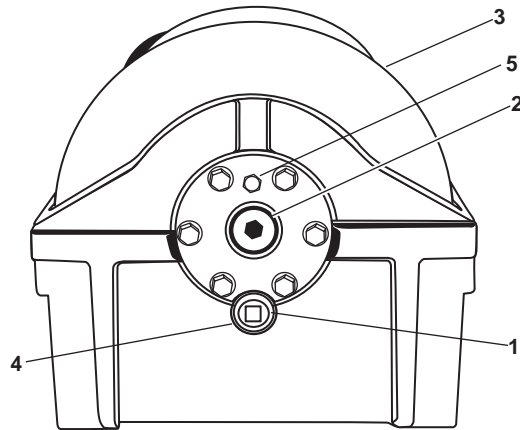

Figure 1. Servicing the Winch
1. Clean the area around the winch drain plug (figure 1, item 1) and winch oil level plug (figure 1, item 2) with dry cleaning solvent and clean wiping rags.
- Align the winch drain plug (figure 1, item 1) in the drum (figure 1, item 3) with the hole (figure 1, item 4) in the support side of the base.
5. Insert a 3/8 inch drive extension (figure 2, item 4) through the 1 inch pipe (figure 2, item 1) and remove the winch drain plug (figure 1, item 1).
6. While the oil is draining, clean the winch vent plug (figure 1, item 5) (WP 0024 00).
7. After the oil finishes draining, install the winch drain plug (figure 1, item 1) and remove the 1 inch pipe (figure 2, item 1).
8. Remove the winch oil level plug (figure 1, item 2).
9. Fill the winch with lubricating gear oil through the winch oil level plug (figure 1, item 2) hole. Capacity is 2.0 quarts (1.9 L). The proper oil level is attained when the oil is at the bottom of the winch oil level plug hole.
10. Install the winch oil level plug (figure 1, item 2).